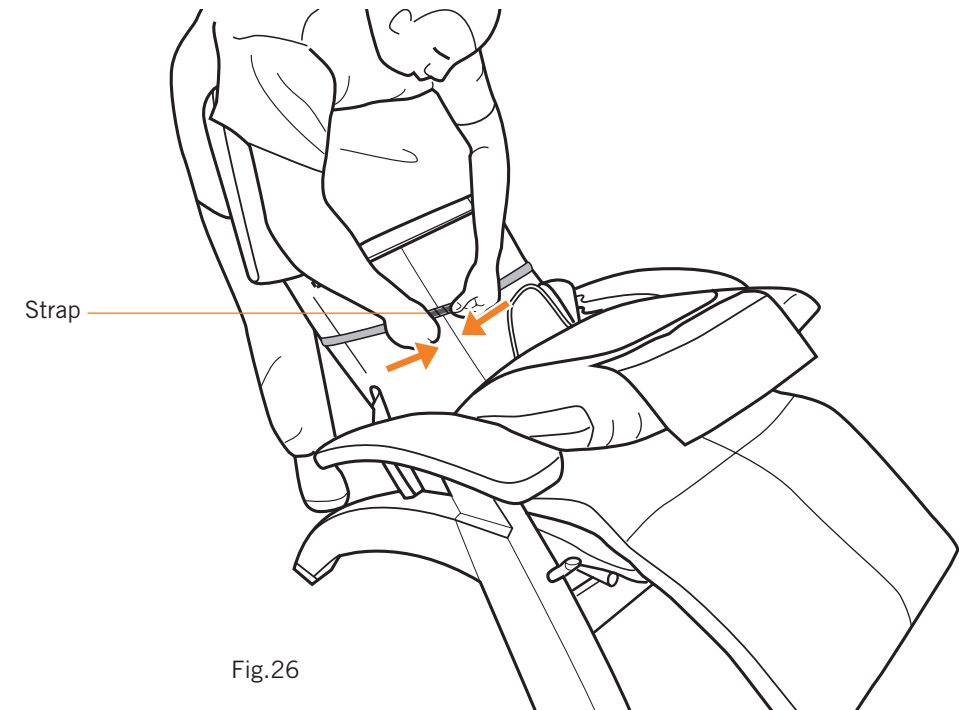

Fig.26
3. Wrap the side straps around the front of the chair canvas, pull them taut, then secure them using the hook-and-loop fasteners (Fig.26). **NOTE:** If the straps are too tight it causes back pad wrinkles.